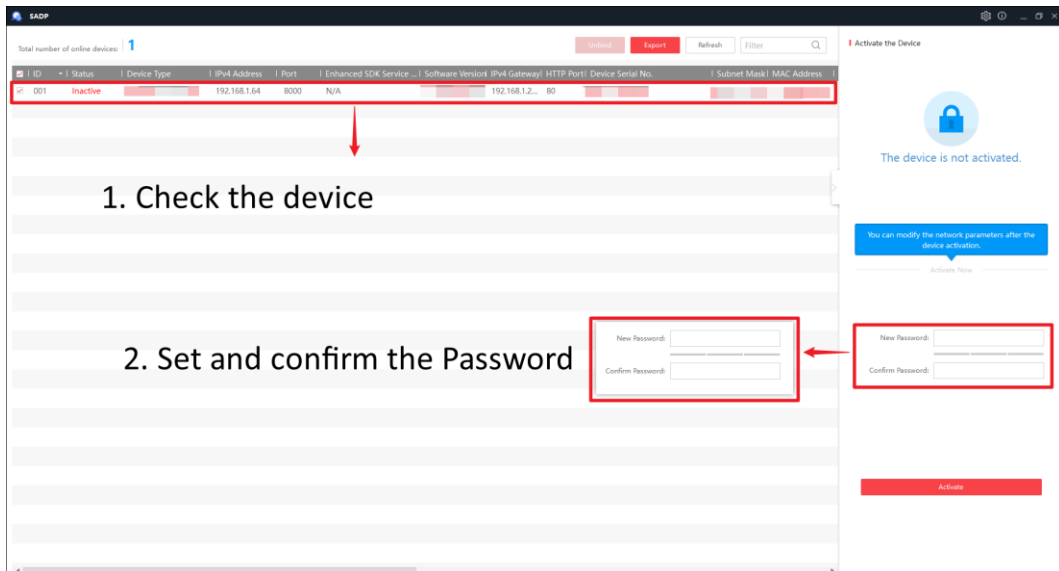

Figure 3-1 Activate Camera
- Step 2 Check the device to be activated, set the device password at "Activate Device", and click "Activate" to complete activation, as shown in Figure 3-1.